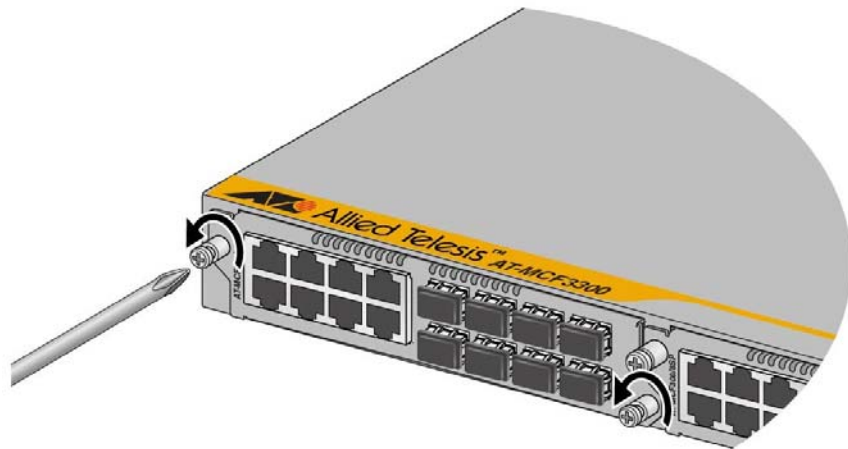

Figure 63. Loosening the Two Captive Screws on the Media Converter Module
4. Using a cross-head screwdriver, loosen the two captive screws that secure the module to the chassis. Refer to Figure 63.